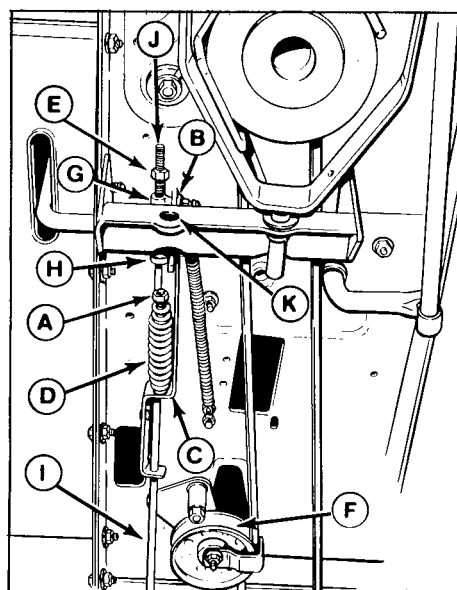

Figure 32. Brake-Clutch Adjustment
- Place the transmission in gear and release the parking brake. Move the brake rod (I, figure 32) back and forth to be sure there is no tension on the brake pads.
- Loosen the locking nut (C). Tighten the adjusting nut (D) to decrease gap or loosen nut to increase gap. Recheck the measurement. When correct, tighten locking nut against adjusting nut.
The clutch-brake pedal must be in up position. With one hand, push rod guide (C, figure 32) as far forward as slot (B) will allow while pulling rod (I) back with other hand. With rod guide in this position, tighten or loosen nut (A) until 1/4 inch of clearance is obtained between nut and end of spring (D).
- With the pedal up, push the idler pulley (F, figure 32) firmly against the belt. With the pulley in this position, the gap between nut (E) and the rod guide (G) should be 7/8 to 1 inch (22 to 25 mm). If not, tighten nut (E) to decrease gap or loosen nut to increase gap. Recheck measurement.
- Depress and lock the clutch-brake pedal. Loosen the setscrew in the set collar (H). Move the collar against the spring which is located between collar (H) and rod guide (G). Be sure spring is seated as far as possible over rod guide (G). Push the collar